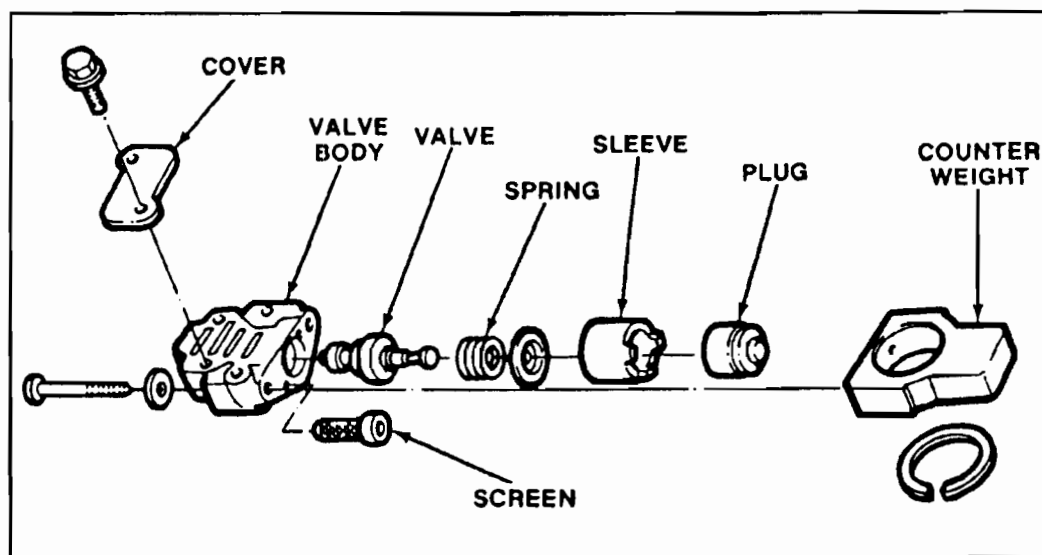

Figure 1
**CAUSE:** The cause may be the governor mis-assembled with the sleeve installed backwards. Proper installation is with the "Castles" towards the counterweight, as shown in Figure 1.
**CORRECTION:** Install sleeve with the "Castles" towards the counterweight, as shown in Figure 1.